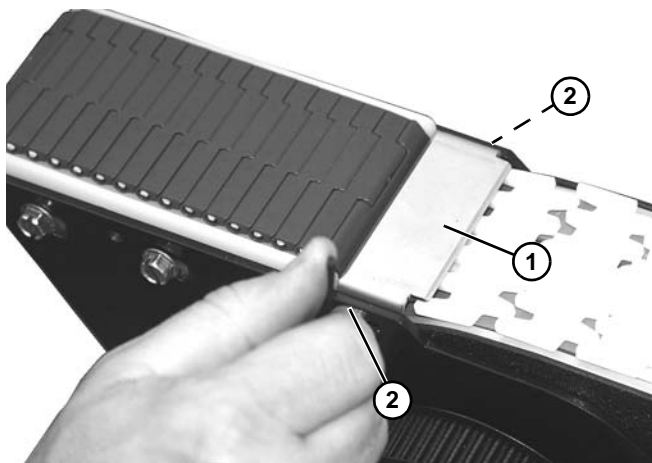

Figure 163
8. Install pinch guard (Figure 163, item 1) with two socket head screws (Figure 163, item 2).